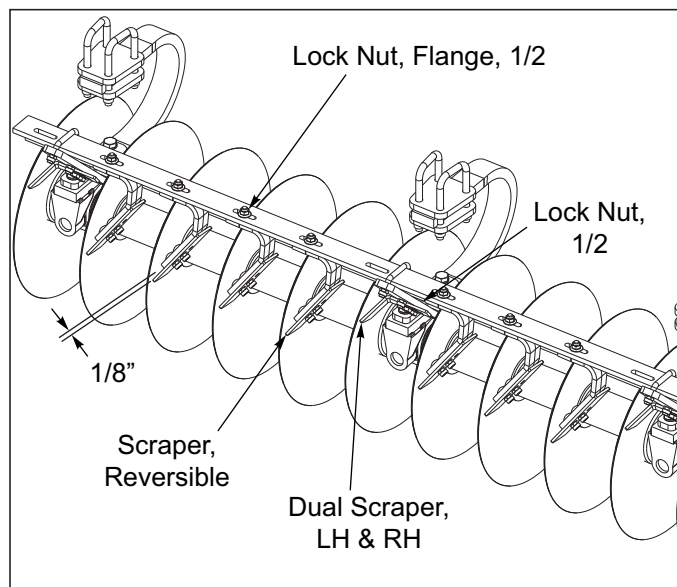

Figure 4-7: Scraper Adjustment
1. Rigid scrapers should be set initially as close to the disc blade as possible without rubbing (approximately 1/8") *See Figure 4-7*. A slotted hole at the top of each scraper is provided for individual adjustment. Loosen 1/2 flange lock nut for reversible scraper or 1/2 lock nuts for dual scrapers to slide scrapers to get the 1/8" spacing from disc blade. Scraper arms are made of spring steel. In wet conditions, the scraper may be set against the disc blade and can function as a spring-loaded scraper.